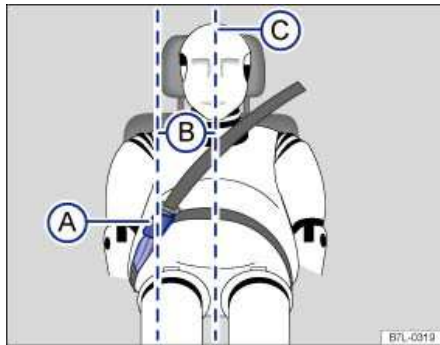

Fig. 55 Positioning of the safety belt extender.
Key to fig. 55:
- Never use a safety belt extender if the distance (B) between the front edge of the safety belt extender buckle (A) and the centerline of the person using the safety belt extender ⇒ fig. 55 (C) is less than 6 inches (15 cm).